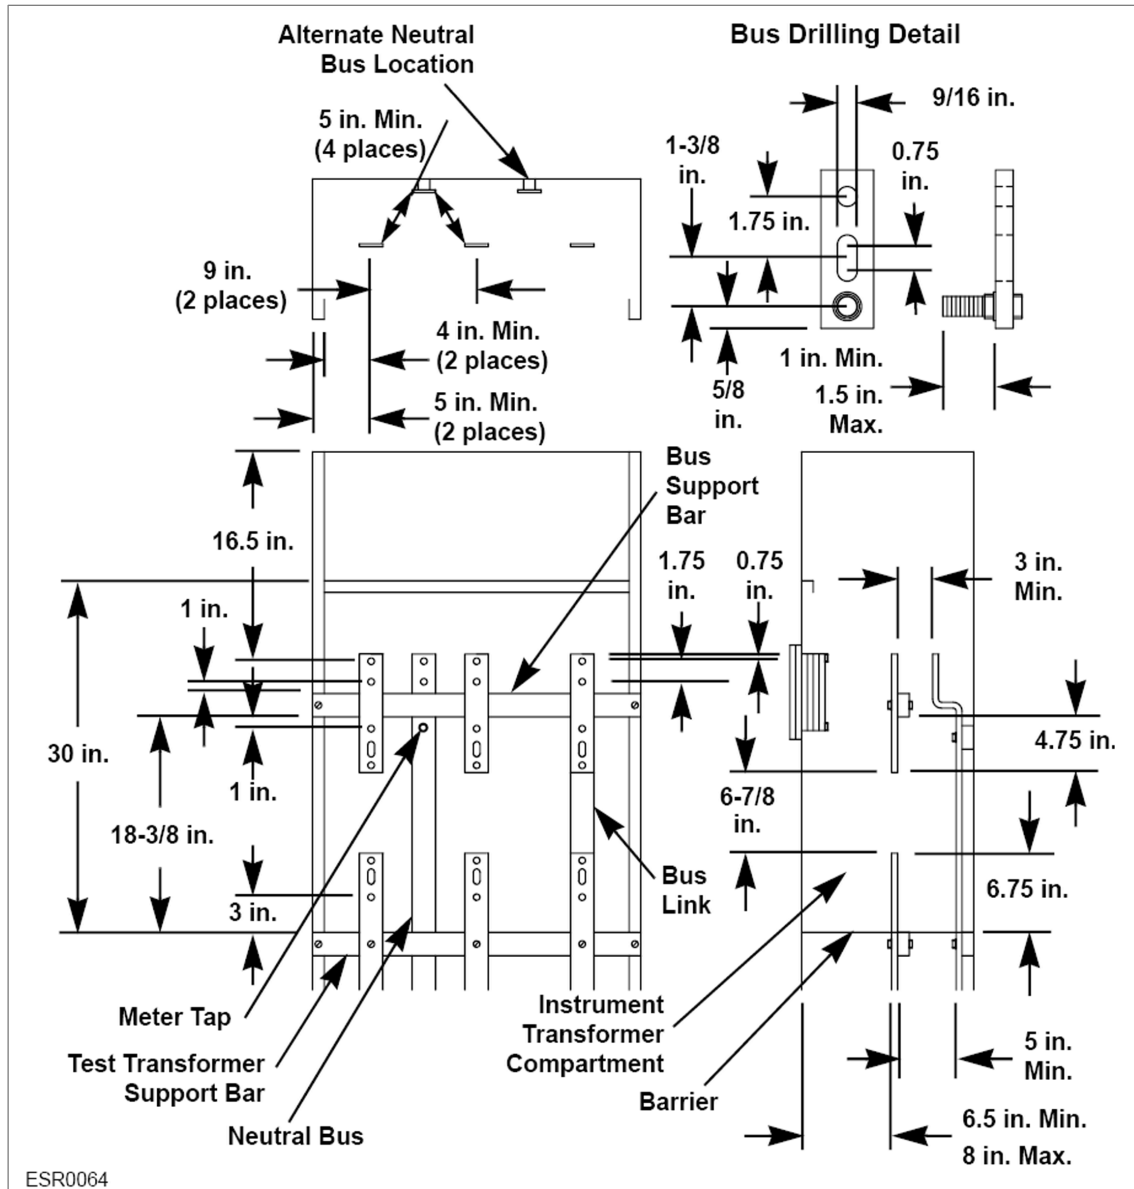

Figure 104: Switchboard Current Transformer Compartment, 0 to 1000 A, 0 to 600 V, Three-Phase, 4-Wire Service (EUSERC 320)
Follow these additional requirements when installing a CT compartment in a switchboard enclosure, 0 to 1000 A, 0 to 600 V, three-phase, 4-wire service (EUSERC 320), such as that shown in **Figure 104**.
- Bus arrangements and supports must be provided as shown in **Figure 104**. The neutral bus may be located at either side.